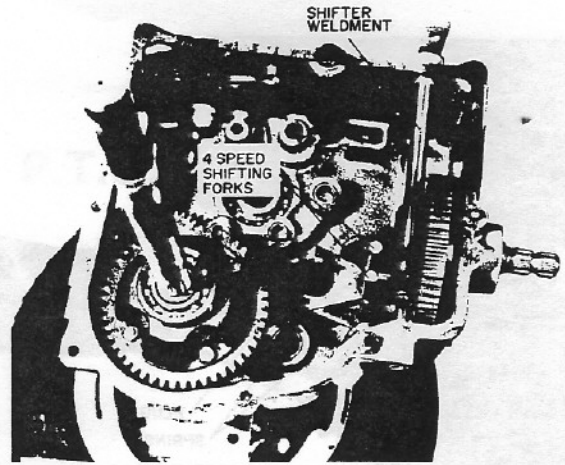

Figure 33
42. Transmission case prior to the removal of the 4 speed Shifting Forks. See fig. 33.